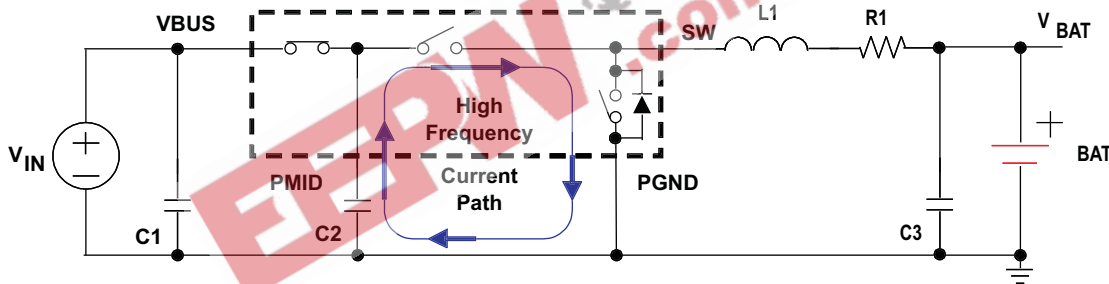

Figure 35. High Frequency Current Path
- To obtain optimal performance, the power input capacitors, connected from input to PGND, should be placed as close as possible to the bq24150/1. The output inductor should be placed close to the IC and the output capacitor connected between the inductor and PGND of the IC. The intent is to minimize the current path area from the SW pin through the LC filter and back to the PGND pin. To prevent high frequency oscillation problems, proper layout to minimize high frequency current path loop is critical (see Figure 35). The sense resistor should be adjacent to the junction of the inductor and output capacitor. Route the sense leads connected across the RSNS back to the IC, close to each other (minimize loop area) or on top of each other on adjacent layers (do not route the sense leads through a high-current path, see Figure 36).